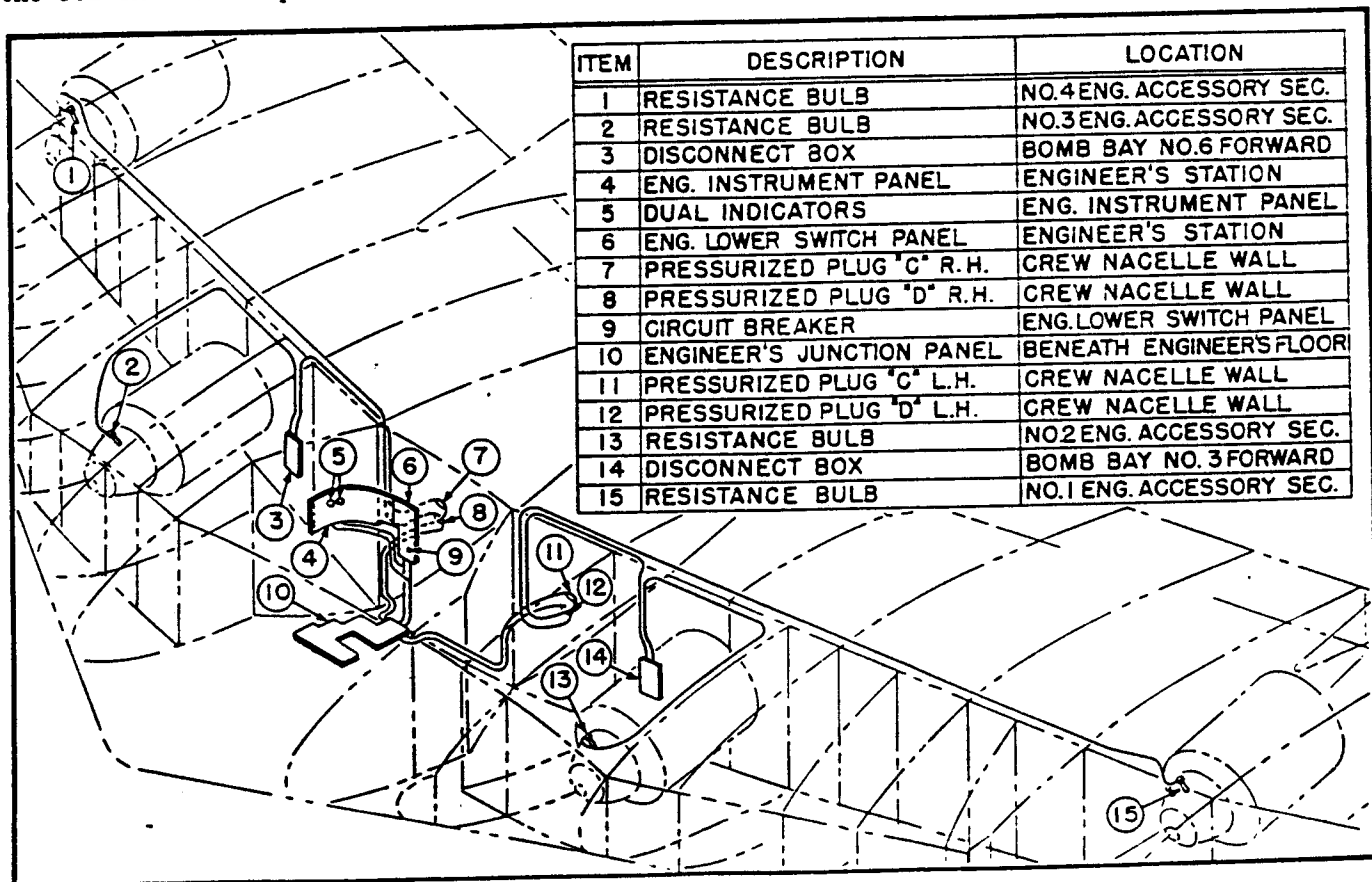

Figure 7. Engine Oil Temperature Indicator Electrical Diagram
g. OIL TEMPERATURE CONTROL. (See figure 7.)
(1) DESCRIPTION.- The oil temperature control consists of a pressure relief valve, surge protection, and a thermostatic oil cooler shutter control, which is mounted on the oil cooler as a single unit. Oil passing through the pressure relief valve operates the thermostatic oil cooler shutter control, which is connected by mechanical linkage to the oil cooler shutters, thereby regulating the flow of air through the oil cooler.
(2) REMOVAL.- The oil temperature regulator is attached to the oil cooler by means of eight screws.